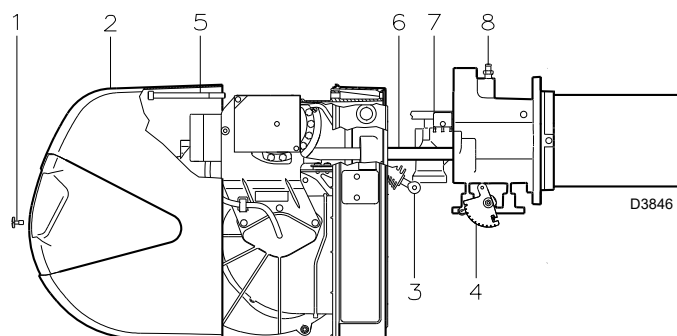
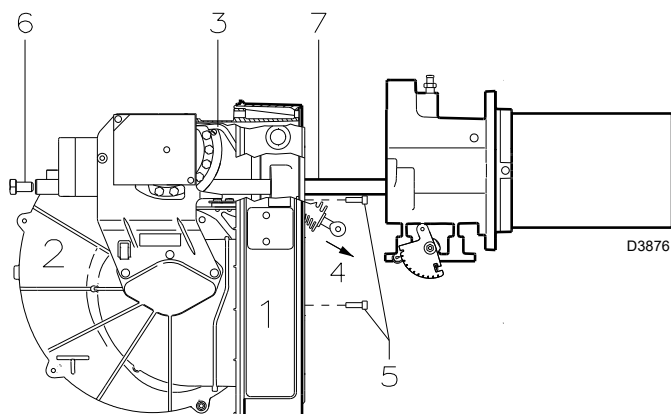
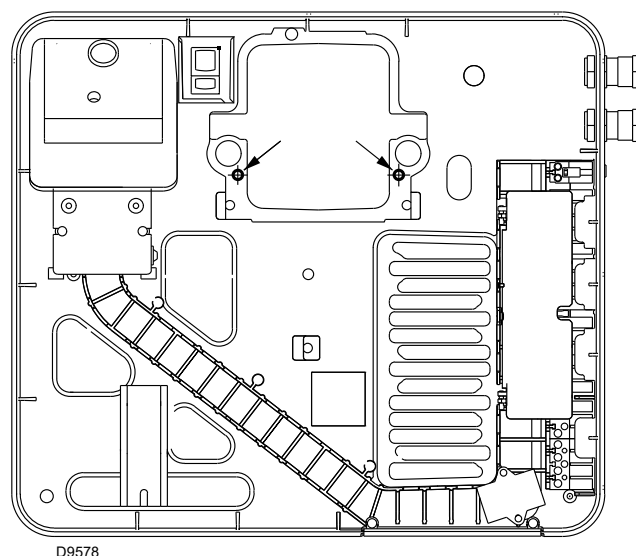

Fig. 36
Fig. 37
Fig. 38
- Loosen the screw 1)(Fig. 36) and remove the hood 2).
- Disengage the articulated coupling 3) from the graduated sector 4)(Fig. 36).
- Remove the screw 5)(Fig. 36) only with the long head models; pull the burner back on the slide bars 6)(Fig. 36) for about 100mm.
- Now extract the gas distributor 7)(Fig. 36) after having removed the screw 8)(Fig. 36).
Assemble the inner part of the combustion head by tightening the screw 8)(Fig. 36) to a tightening torque of $4 \pm 6 \text{ Nm}$.
- Replace the screw 5)(Fig. 36) and carefully pull the probe and electrode cables outwards until they are slightly taut.
- Reposition the cover 2)(Fig. 36) and fix with the screw 1)(Fig. 36).
If it is necessary to carry out maintenance on the electrical panel 1)(Fig. 37), it is possible to remove only the fan unit 2)(Fig. 37), to allow improved access to the electrical components.
With the burner open as in Fig. 36, unhook the tie-rod 3)(Fig. 37), removing the screw on the adjustable profile cam, and extract it from the tip 4)(Fig. 37).
Remove the 3 screws 5)(Fig. 37) positioned on the protective cover.
Removing the 2 screws 6)(Fig. 37), it is possible to unthread the fan unit 2)(Fig. 37) from the slide bars 7)(Fig. 37).
Finally, you can use 2 of the 3 screws 5)(Fig. 37) to fix the electrical panel to the pipe coupling, in the points indicated in Fig. 38, and then carry out the maintenance operations.